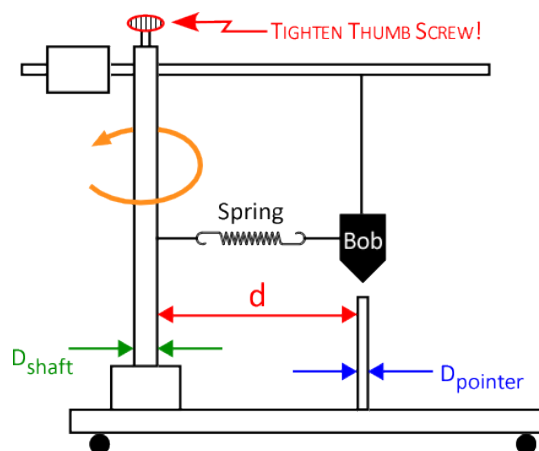

Figure 1: Rotating Bob
3. The radius of Bob’s orbit, R_{orbit} , is the distance from the center of the rotating shaft to the center of the pointer. Calculate the radius of the orbit from the *radii* of the rotating shaft and the pointer, and the closest distance between them – note that the radius is not simply the measurement of d (Figure 1). Use vernier calipers to measure the diameters, but you’ll need to use a meter stick and calipers to measure d . Double check your measurement of the radius; each person in the group should take their own measurements. Check the value of your measured radius with your instructor.